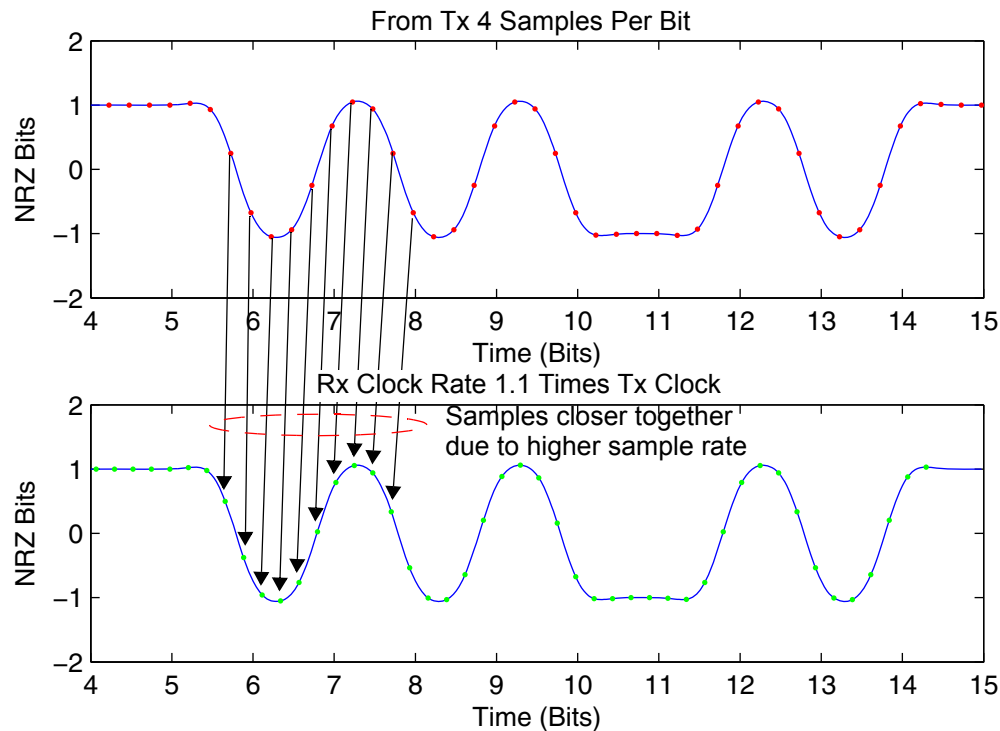

Figure 22: Waveform plots of a filtered NRZ signal with an overlay of synchronous 4 samples per bit (top) and 4.1 samples per bit (bottom).
To further motivate the need for this function, consider the waveform plots of Figure 22. In the upper plot you see a case of synchronous sampling at $N_s = 4$ samples per bit. In the lower plot the sampling rate is asynchronous at $N_s = 4.1$ samples per bit. To obtain the ± 1 bit values from the lower waveform re-sampling is required. This is the job of a bit synchronizer. Figure 23 shows the track signal output from the SCCS for the synchronous and asynchronous sampling depicted in Figure 22. As expected, for a signal having synchronous samples already, the SCCS simply finds the proper index mod(4) to make accurate determination of the bit value, e.g., ± 1 . For the slightly over sampled signal, the index needs to be bumped ahead every so often to keep up with the higher sampling rate. In the end the SCCS function outputs correct bit decisions for both waveforms, with the exception of a start-up transient: